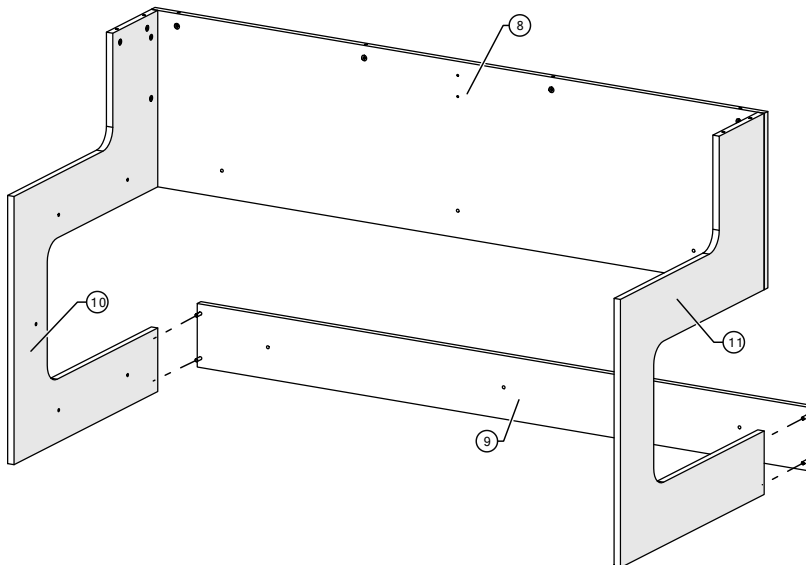

Figure 13
17. Connect the border-bottom to border-gable LH and border-gable RH, and press tightly together by inserting the wooden dowels into the side holes of the border-gable LH and RH (Figure 13).